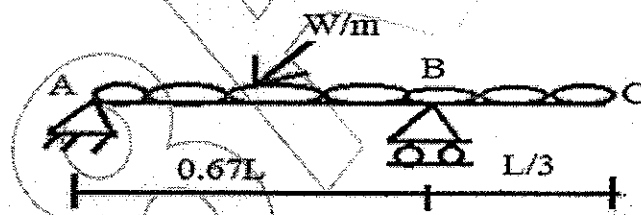

Figure 3
6. For the beam shown in Figure 3 show that the deflection at the free end is  $WL^4/684EI$ . Use Macaulay's method.